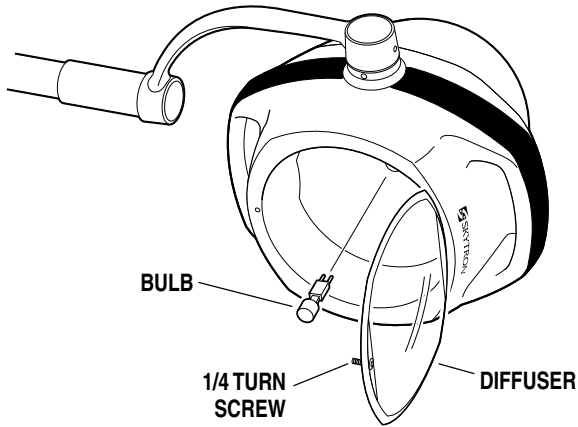

Figure 2-1.
2. Hold the diffuser with one hand, loosen the 1/4 turn screw and lower the diffuser assembly. See figure 2-1.